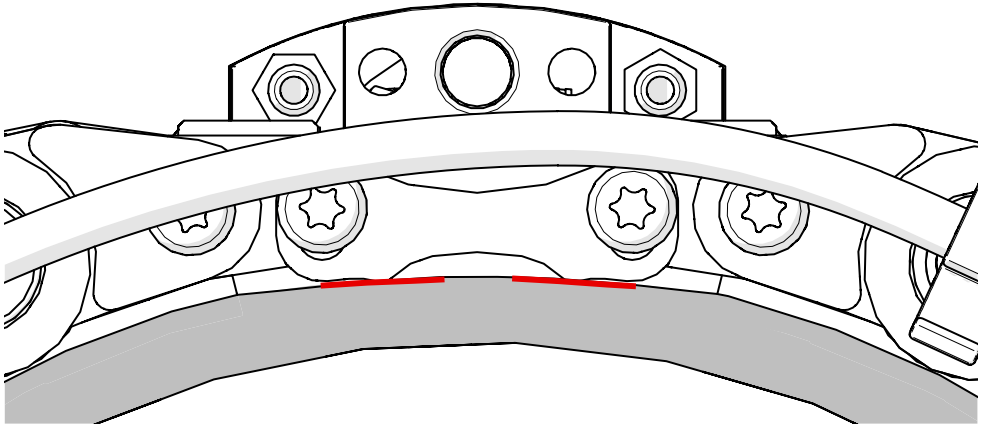

Fig. 40 - Ensure setup tab contacts scan surface
10. Ensure that all wheels and both indicator points of the setup tab are contacting the tube/pipe surface (Fig. 40).